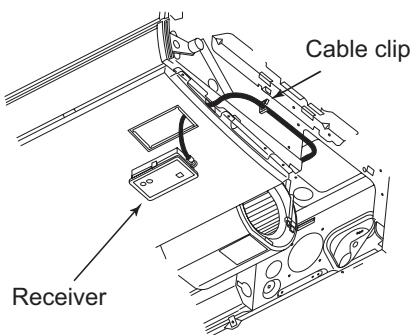

Fig. 1-225
- 4 Fasten the receiver's lead wire to the cable clip that is holding the wire from the louver motor. (Fig. 1-225)